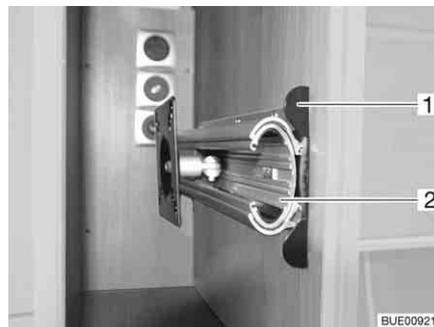

Fig. 85 Holder in the TV cabinet
- Push the unlocking bar (Fig. 85,1) in.
- Pull out the extension (Fig. 85,2) as far as possible.
- Push in the extension (Fig. 85,2) until the unlocking bar (Fig. 85,1) engages.